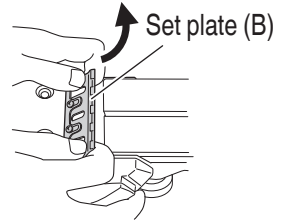
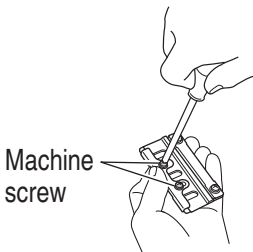

Fig. 14
Fig. 15
- (2) As shown in **Fig. 14**, after removing the carbide blade, slide set plate (B) in the direction indicated by the arrow to disassemble set plate (B).
- (3) Loosen the 2 screws holding on the carbide blade and set plate (A), set plate (B).
- (4) As shown in **Fig. 15, 16**, press the turned surface of set plate (A) to the wall surface b while adjusting the carbide blade edge to the wall surface a of the set gauge. Then, tighten them with the 2 screws.
- (2) As shown in **Fig. 14 on page 21**, slide the blade in the direction indicated by the arrow to disassemble the blade.
- (1) Loosen the 2 screws holding on the blade and set plate (A).
- (2) Press the turned surface of set plate (A) to the wall surface *b* while adjusting the blade edge to the wall surface *a* of the set gauge. Then, tighten them with the 2 screws. (**Fig. 15 on page 21** and **Fig. 23**)